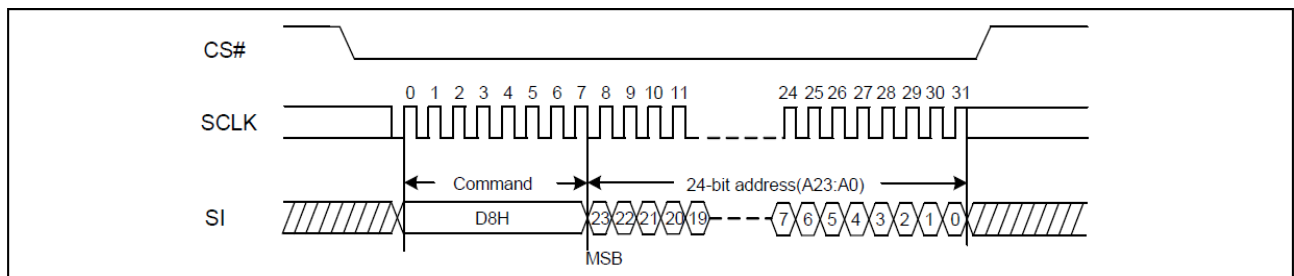

Figure18. 64KB Block Erase Sequence Diagram
The 64KB Block Erase command sequence: CS# goes low→sending 64KB Block Erase command→3-byte address on SI→CS# goes high. The command sequence is shown in Figure18. CS# must be driven high after the eighth bit of the last address byte has been latched in; otherwise the 64KB Block Erase (BE) command is not executed. As soon as CS# is driven high, the self-timed Block Erase cycle (whose duration is tBE) is initiated. While the Block Erase cycle is in progress, the Status Register may be read to check the value of the Write In Progress (WIP) bit. The Write In Progress (WIP) bit is 1 during the self-timed Block Erase cycle, and is 0 when it is completed. Write Enable Latch (WEL) bit is reset t. A 64KB Block Erase (BE) commands applied to a block which is protected by the Block Protect (BP4, BP3, BP2, BP1, BP0) bits (see Table1 & 1.1) will not be executed. Note: Power disruption during erase operation will cause incomplete erase, thus recommend to perform a re-erase once power resume.